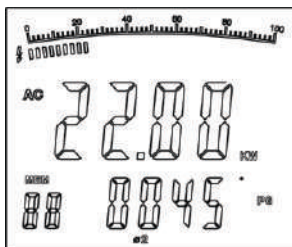

Figure 9
2. After recording the current power measurement value of the first phase, then press **SEL** to choose $\odot 2$. The double display shows the value of active power kW and PG of the second phase **2.** as in figure 9.